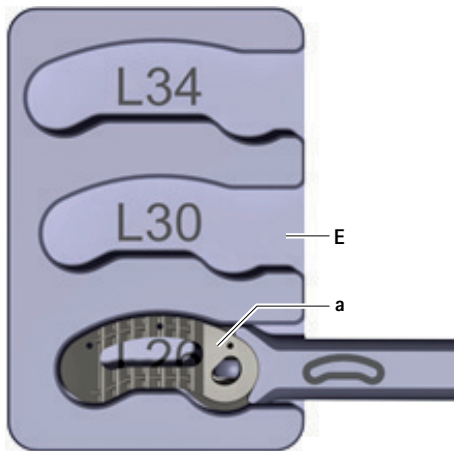

Fig. 9 Implant in filling holder
- Place the implant **a** in the filling holder **E**, see Fig. 9. When doing so, observe the implant length (marking on the filling holder: L26/L30/L34).